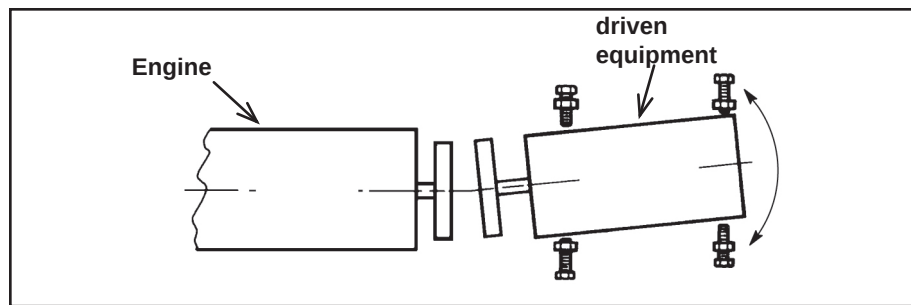

Figure 7-41: Move opposite end
4. Loosen both bolts on the opposite end and move as calculated. Re-torque all mounting bolts (see "Figure 7-41: Move opposite end").